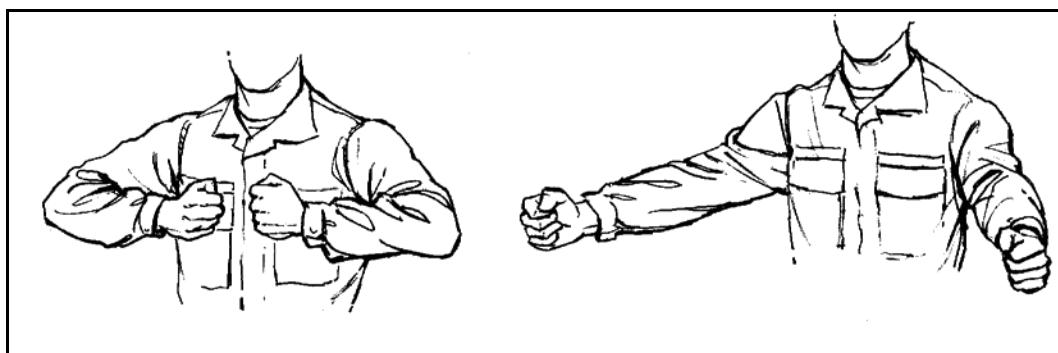

Figure 3-10. Arm-and-hand signal for THROW ROPES.
- (3) **THROW ROPES** (Figure 3-10). The rappel master extends both arms to the front with elbows locked, fist clenched, and index fingers extended. He points at respective rappellers, brings the forearms to an upright position, and then down to the elbow-locked position.